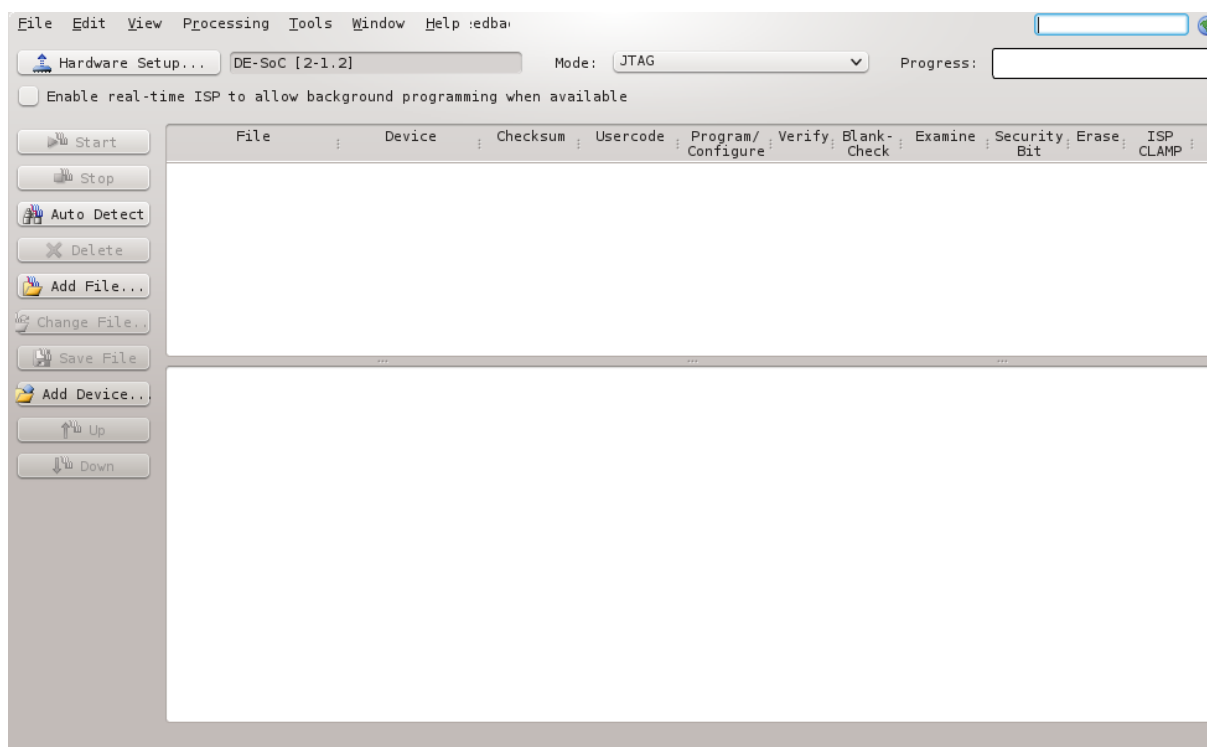

Figure 8-18. Quartus Prime Programmer
41. Choose the “Auto Detect” button on the left of Figure 8-18, then choose “5CSEMA5”, as shown in Figure 8-19.